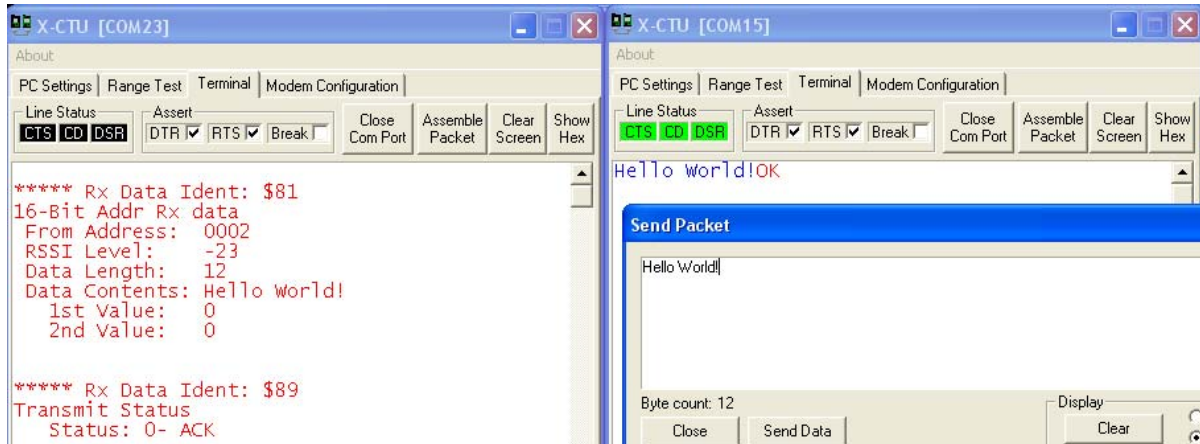

Figure 6-7: Receiving String of Data by API_Base
- ✓ Your results should look similar to Figure 6-7.